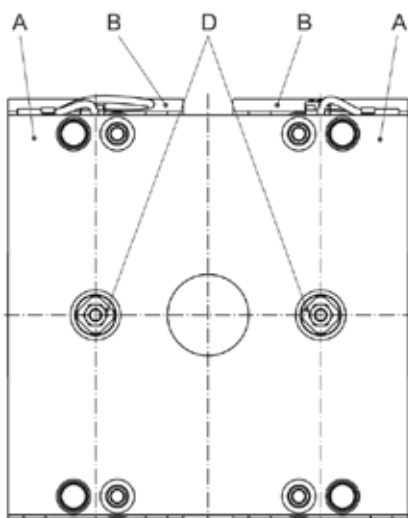

Fig. 1 (Brake without hand release)
4. Please see Table 3 for the dimension of the adjustment plate, dependent on the brake Type and on the switching distance stated on the sticker (8); and join the appropriate adjustment plate between the proximity switch (1) and the adjusting screw (4) or the switching bolt (C) (Figs. 1 to 3).